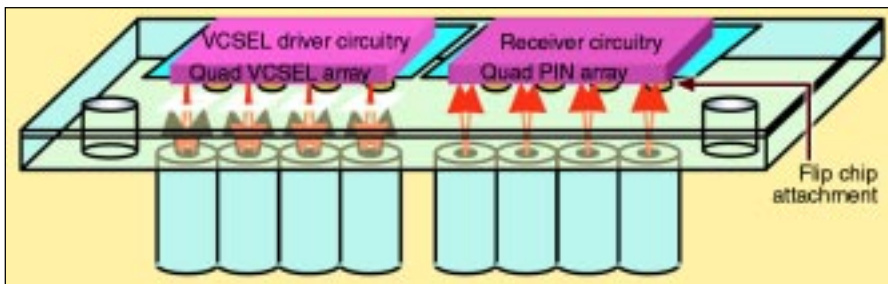
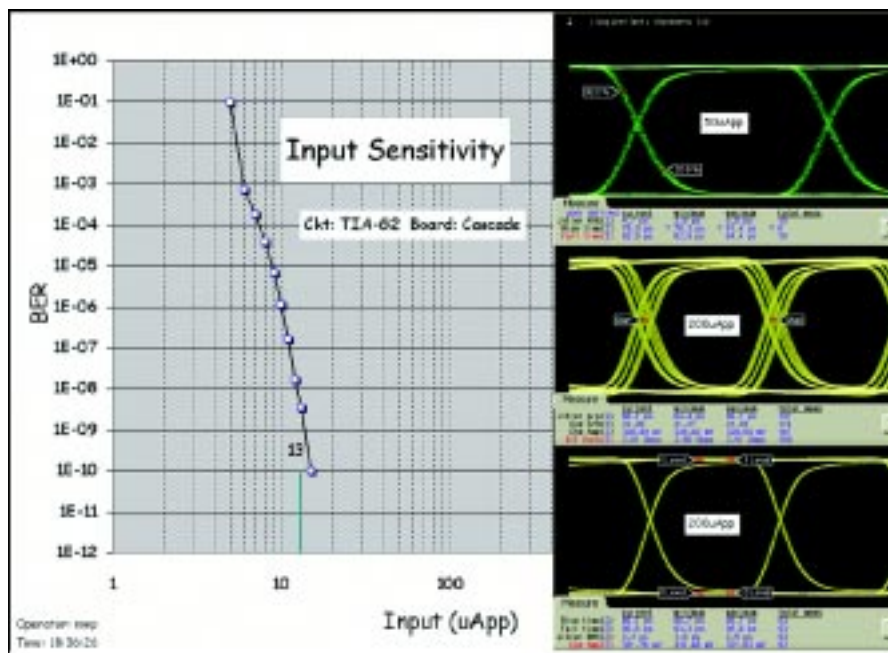

Figure 6. Flipped optical chips on UTSi, FOCUTS, consists of VCSEL arrays and photodetector arrays flip chip attached to their respective driver circuits.
Figure 7. Waterfall chart of BER in an optical link using FOCUTS.
CMOS has been applied to make high-performance parallel optical interconnects. Figure 6 shows a module that is a 10 Gbps bi-directional (transmit and receive) parallel optical module made on UTSi CMOS. By flip-chipping vertical cavity surface emitting laser (VCSEL) lasers and P-i-N photodetectors onto circuits designed to drive them (laser drivers and TIA/LA, respectively), virtually all bonding parasitics and alignment issues are resolved. Laser cutting of alignment holes in the sapphire substrate provides a mechanical self-alignment feature that ensures reliable optical coupling.
A waterfall chart is shown in Figure 7 from a 2.5 Gbps optical link of Figure 6 with a bit error rate of 1×10^{-10} at input optical power of -13 dBm. Each channel consumes about 100 mW of power. The entire module is 0.5x1x2 cm and can be configured in any combination of transmit (TX) and receive (RX) for each of the 12 channels. Two dimensional arrays such as 2x12 are also possible in the same basic configuration.